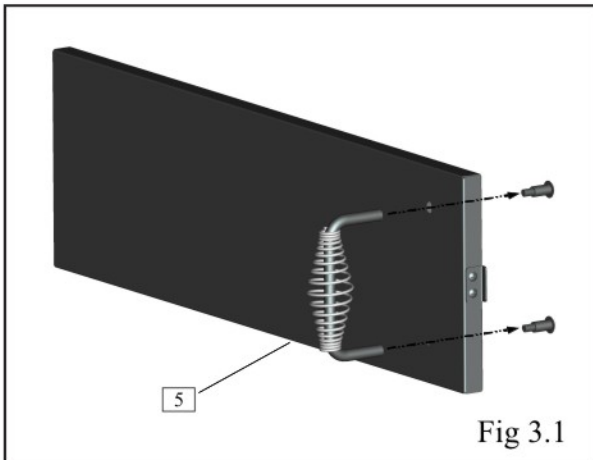

Fig 3.1
Procedure: Attach the small spring handle to the lower door with (2) #10-24 x 3/8" shoulder bolts. Fig 3.1